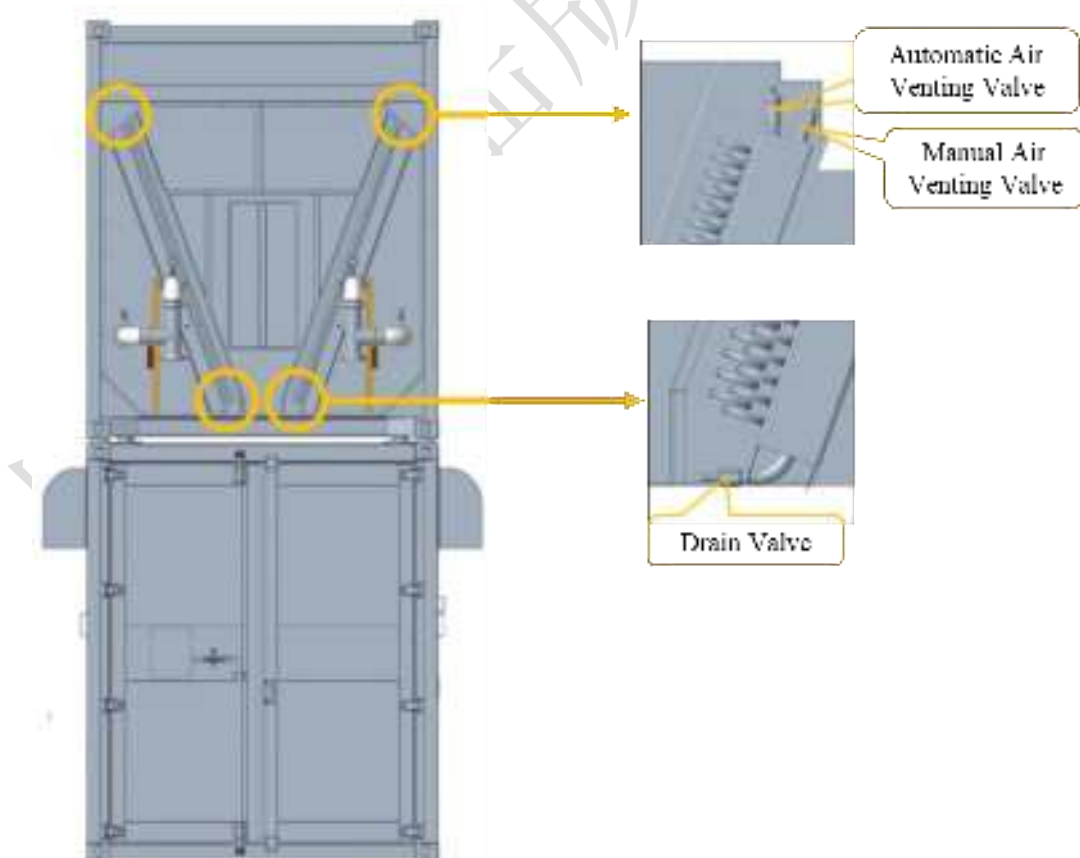

Figure 9.4 Dry cooling tower liquid release ball valve location
d) When the dry cooling tower is discharged, a hose can be connected to the discharge port and the discharge ball valve (Figure 9.4) can be opened to discharge the dry cooling tower. There are 4 discharge valves in the dry cooling tower.